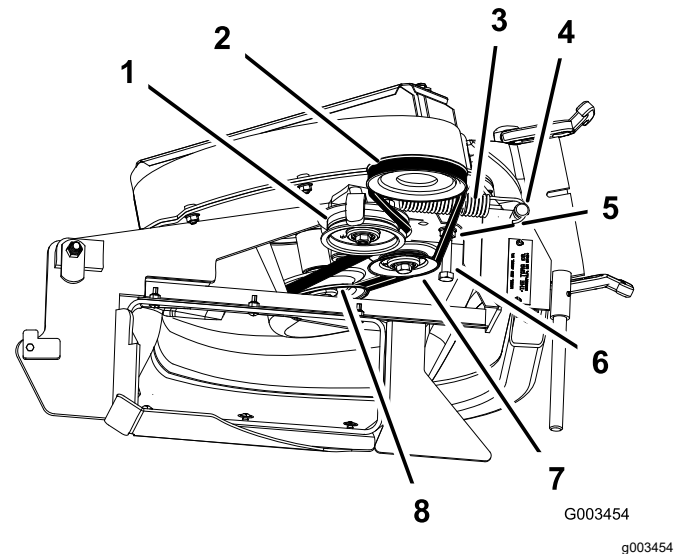

Figure 44
3. Loosen the belt-guide bolt (Figure 44).
5. Install the new belt around the blower pulley (Figure 44).
7. Tighten the belt-guide bolt (Figure 44).
9. Install the belt onto the spring-loaded idler pulley (Figure 44).